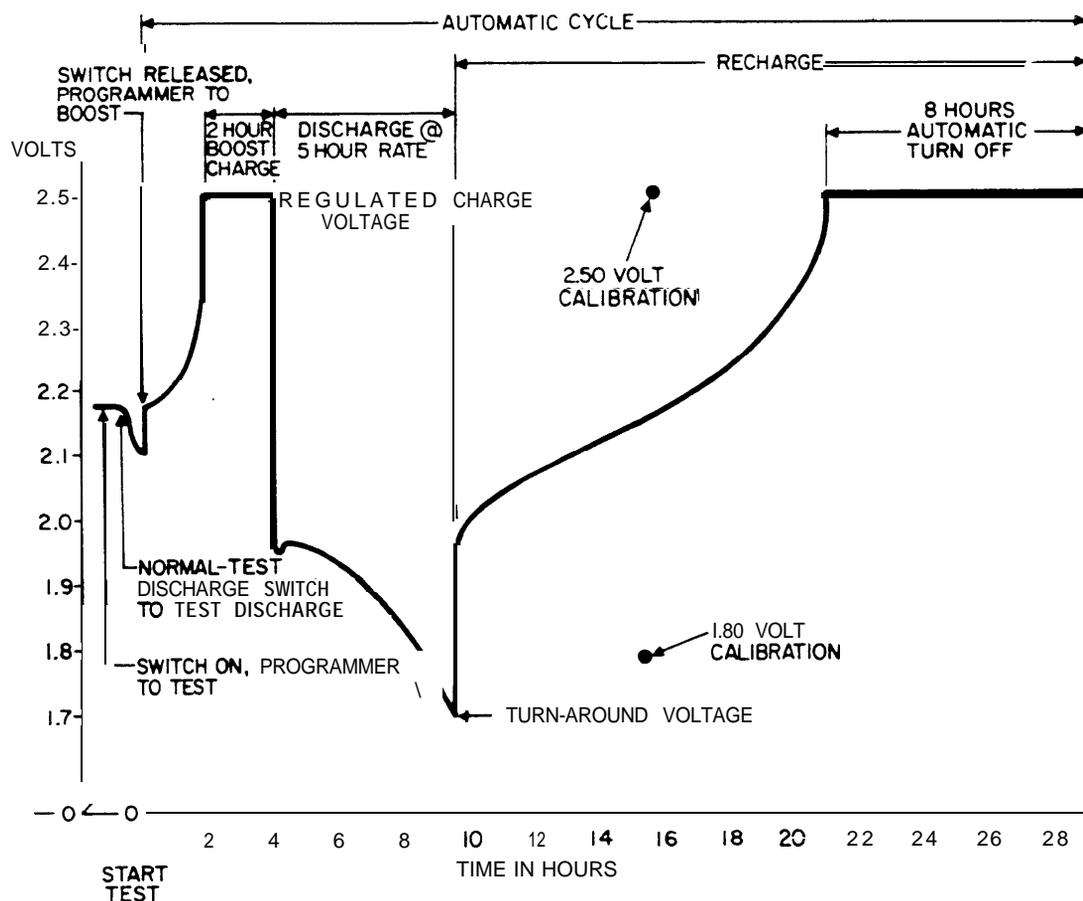

Figure 6. Typical Recording Tape Results for Lead-Calcium Cells.
2 To determine the percentage of reserve capacity, refer to Table 3 and Figure 6.
- (b) At the end of the time period of step a, the programmer advances to the DISCHARGE position, and a 2.5-volt calibration point is recorded by the recording voltmeter as shown in Figure 6.
- (c) The programmer remains in the DISCHARGE position until the cell voltage reaches the low limit of 1.70 volts. At this point, the turnaround circuit in the discharger/recharger operates and advances the programmer to record a 1.8-volt calibration point on the tape (Figure 6).
- (a) At the completion of Paragraph 3.07, step 3, a 2.5-volt calibration point is recorded by the recording voltmeter as shown in Figure 6.
- (c) When the cell voltage reaches 1.70 volts, the turnaround circuit in the discharger/recharger operates and advances the programmer to record a 1.8-volt calibration point on the tape as shown in Figure 6. The programmer then advances to the CHARGE position.
<p>Percentage Capacity = $\frac{\text{Discharge Time (Hours)} \times \text{Temperature Correction Factor}}{5} \times 100$</p> <p>Where:</p> <p>The automatic discharge time is measured directly from the test record of Figure 6, in which 1 inch equals 1 hour.</p> <p>The temperature correction factor is that which was entered in the TEMP. CORR. FACTOR space in the PRE-TEST CONDITIONS section of the Form S 4209 for the tests.</p> <p>*NOTE: The divisor of 5 is based on a discharge rate of one-fifth of the 5-hour capacity (Table 4). Use a divisor of 7.3 for 2128 AH cells.</p>